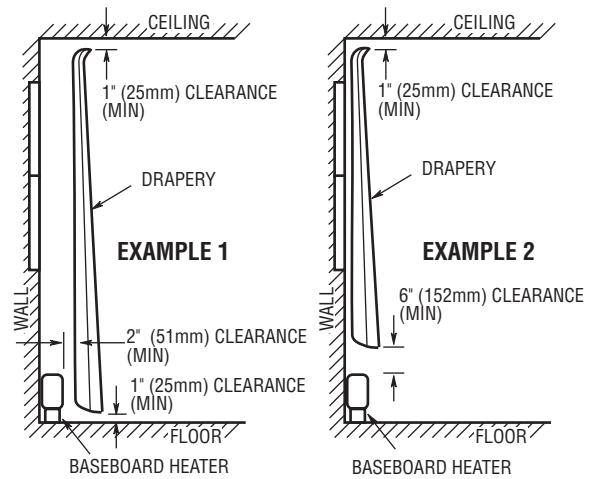

Figure 1. Positioning Drapery Near Heater
7. **CAUTION** – Heater Operates at High Temperatures. Keep Electrical Cords (including telephone and computer cables), Drapes, and Other Furnishings Away From Heater. For efficient and safe operation, we recommend maintaining a minimum of 6 inches (152 mm) clearance above and in front of the heater at all times. See Clearances section and Figure 1 for minimum clearance requirements.